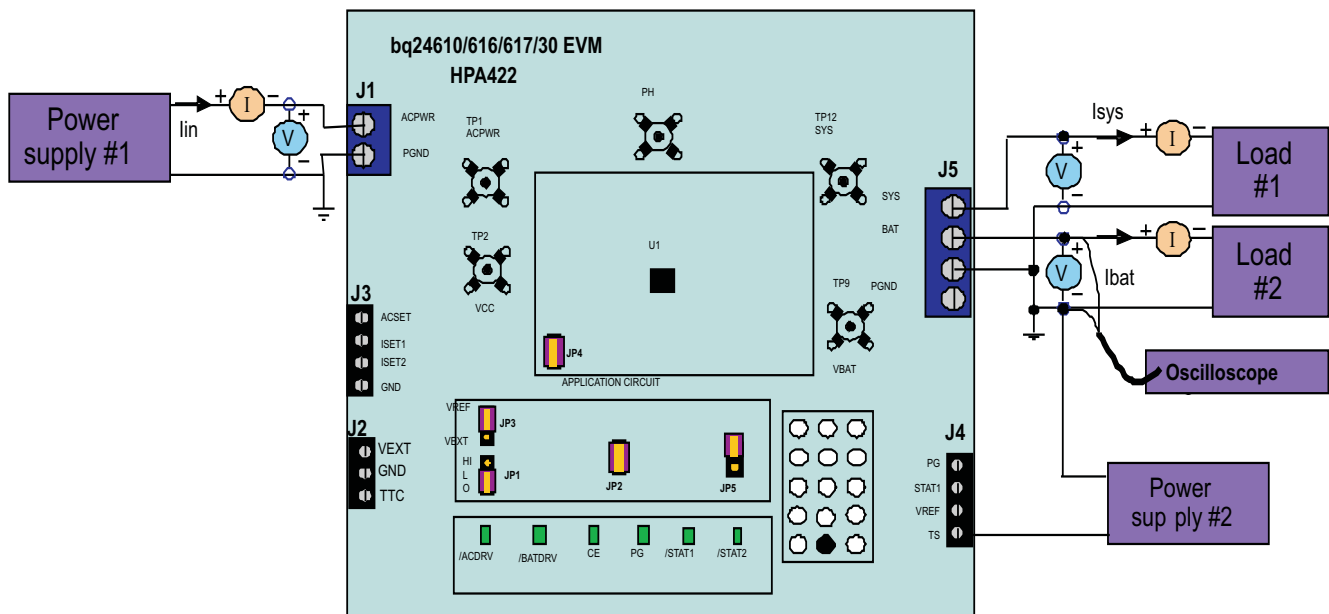

Figure 1. Original Test Setup for HPA422 (bq2461x/bq2463x EVM)
After the above steps, the test setup for HPA422 is shown in Figure 1.
3. Connect the output of the Load #1 in series with a current meter (multimeter) to J5 (SYS, GND). Make sure a voltage meter is connected across J5 (SYS, GND). Turn on the power of the Load #1. Set the load current to $3.0\text{A} \pm 50\text{mA}$ but disable the load #1. The setup is now like Figure 1 for HPA422. Make sure $I_{bat} = 0\text{A} \pm 10\text{mA}$ and $I_{sys} = 0\text{A} \pm 10\text{mA}$.
- Observe → D3 (CE) on